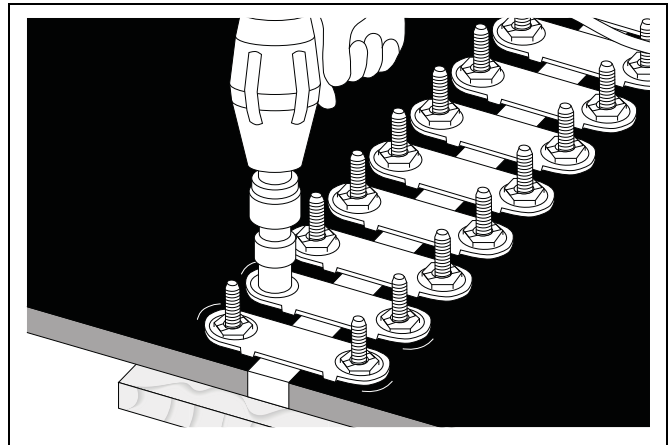

Figure 4AE
11. Hammer plates in belt with wood block. Retighten nuts. (*See Figure 4AF.*)